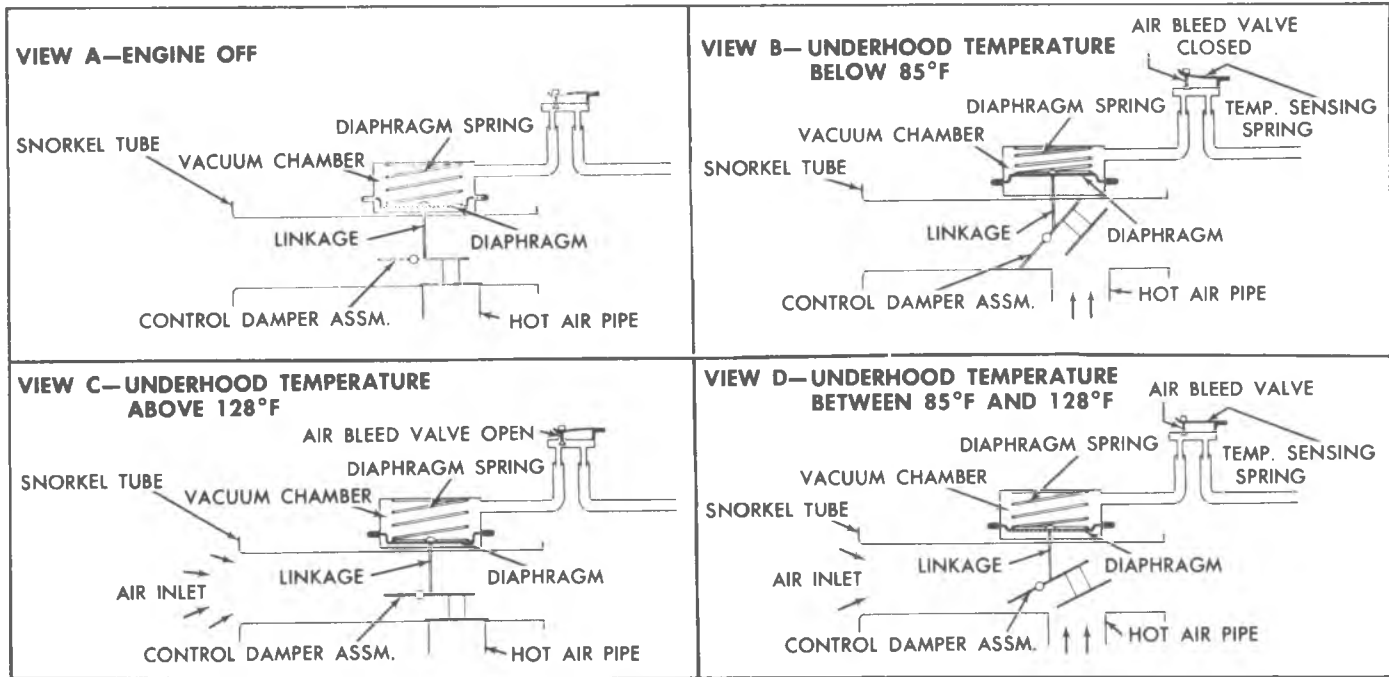

Fig. 11A--Air Cleaner Operation
2. With the engine "OFF", observe damper door position through snorkel opening. Snorkel passage should be open. Fig. 11A, View A. If not, check for binds in linkage.
3. Start and idle engine. With air temperature below 85 degrees F, snorkel passage should be closed. Fig. 11A, View B. When damper door begins to open